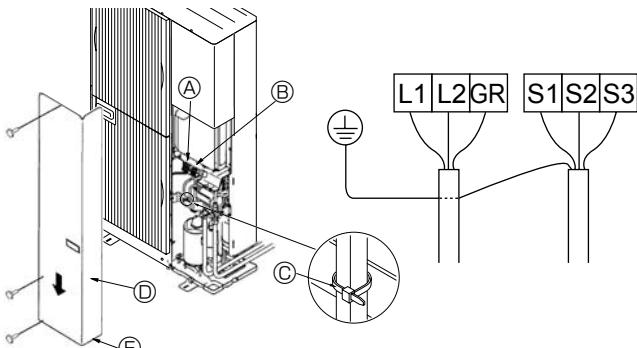
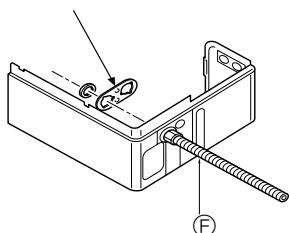

Fig. 7-1
Fig. 7-2
7.1. Outdoor unit (Fig. 7-1) (Fig. 7-2)
- ① Remove the service panel.
- ② Wire the cables referring to the Fig. 7-1.
- ③ Earth terminal
④ Terminal block
⑤ Clamp
⑥ Service panel
⑦ Wire the cables so that they do not contact the center of the service panel or the gas valve.
- ⑧ Conduit mounting plates ($\varnothing 22$ mm [7/8"]) are being provided. Pass the power supply and signal wires through the appropriate knock-out holes, then remove the knock-out piece from the bottom of the terminal box and connect the wires. (Fig. 7-2)
- ⑨ Fix power source wiring to terminal box by using buffer bushing for tensile force (PG connection or the like).
⑩ Wiring conduit (O.D. 1/2", procure locally)